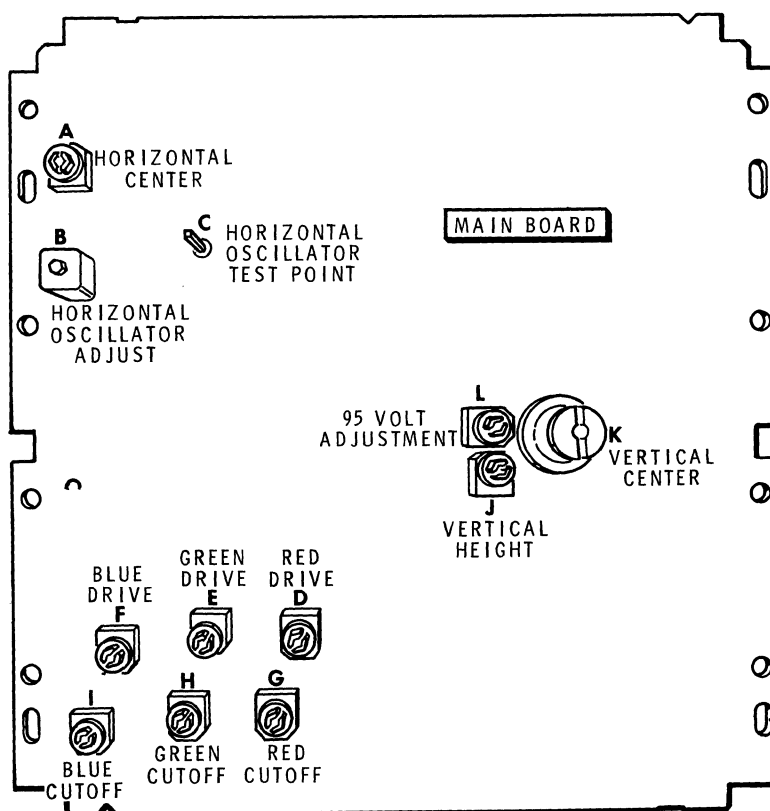

Figure 6-1
The video adjustments for the ZVM-134 are located inside the cabinet on the main board, on the high voltage board, and on the neck of the CRT. The adjustments are listed below with reference letters to help you locate them in Figures 6-1, and 6-2.
The 95-volt B+ adjustment is located on the main board. The test point for this voltage is located near the bottom of the horizontal sweep module. Refer to Figure 6-1 for the test point (P) and adjustment location (L).
Width controls P1 and P2 are coarse adjustment jumpers. For Heath/Zenith computers, these jumpers should be set as shown in Figure 6-1. P1 is in the upper vertical position and P2 is in the lower vertical position.
These adjustments are easier to make in a darkened room. The RGB cut-off adjustments are located on the main board. Refer to Figure 6-1.
This statement will create a white screen. Observe the screen for red, green, or blue tints. If they are present, adjust out the color by using the appropriate Drive Adjust. Refer to Figure 6-1.
The Vertical Center Adjustment is located on the main board. Refer to Figure 6-1. This control is used to shift the display up or down. To adjust this control, use either the Display/Keyboard Test or ZBASIC Program to fill the screen.
The Vertical Height adjustment is located on the main board. Refer to Figure 6-1. This control is used to adjust the vertical size of the display. To adjust the vertical height, use either the Display/Keyboard Test or ZBASIC Program to fill the screen.
The Horizontal Center control is located on the main board. Refer to Figure 6-1. This control is used to move the display either left or to the right. To adjust the horizontal center control, use either the Display/Keyboard Test or ZBASIC Program.
The Horizontal Oscillator adjustment is located on the main board. Refer to Figure 6-1.